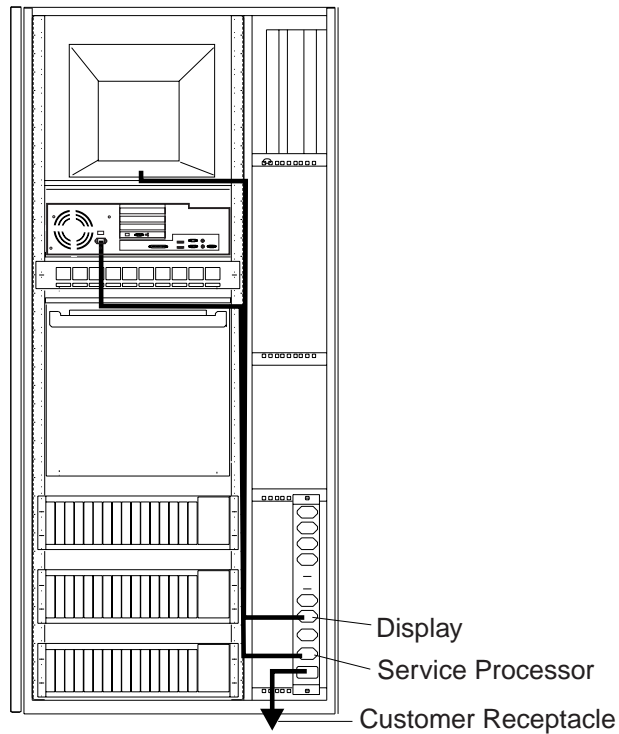

Figure 1-12. Power Cords Connection
16. ____ Route and connect the power cords (PN 58G5783) from the display and service processor unit to the ac outlet distribution box as shown in Figure 1-12. Secure these cables using tie clamps along the frame, then go to step 18 on page 1-17.